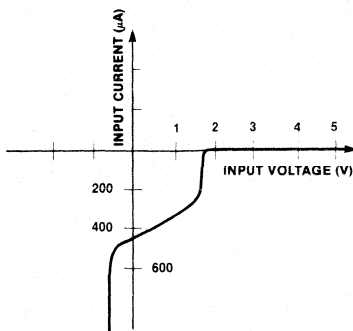
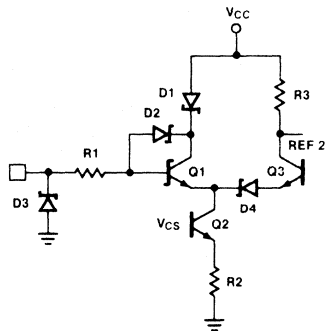
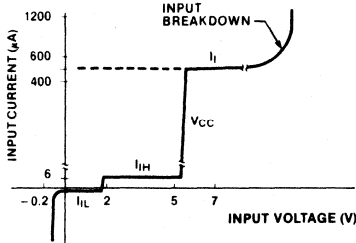

Figure 2. Static Diode Input Function of Voltage vs Current
Figure 7a. NPN Input
Figure 8. NPN Input Characteristics (not to scale)
The static diode input function of voltage versus current is shown in Figure 2. If the pad voltage is negative, most of the relatively high, negative current flows through the clamp Schottky D2. At zero volts the current flows from V_{CC} through R1 and D1 to the pad. Switching from a logic LOW level to a logic HIGH level occurs when the input pad voltage rises high enough to force the current from the D1 path to the Q3-Q2-Q1 path. This happens when the base voltage of transistor Q3 is at three base-emitter drops (3V_{BE}), and the pad is at 2V_{BE}, which is the standard FAST threshold switching voltage. At this voltage the input current is very small, just the leakage currents of diodes D1, D3 and clamp diode D2. The current remains at this small, positive value until breakdown voltage is reached.
The current of Figure 2 is scaled for the case where the pad is required to pull down a single 10K-ohm resistor R1 (20µA maximum in the HIGH state and 0.6mA maximum in the LOW state), which is defined as a standard FAST Unit Load (UL). For some parts, pad current can exceed a UL, especially in the logic LOW state. This will happen if the pad must sink the current from more than one R1 resistor or if the value of R1 is less than 10K ohms, which will be the case if the capacitance at the base of the transistor Q3 is too large for the required switching speed. In this event, the actual number of ULs is listed for each input in the specification sheet for the part. Note that a UL as defined here is less than the normally defined Schottky TTL Unit Load; the correlation is one Schottky Unit Load = 1.67 ULs. This is an important point to remember for fan-in and fan-out calculations in systems that mix FAST with other TTL families.
The NPN input is shown with two variations in Figures 7a and 7b. It has limited use in standard TTL circuits, and is used in selected FAST devices, especially where its superior high-impedance input characteristics are useful. A typical plot of static input current versus input voltage is shown in Figure 8. There are some significant differences between this function and that of the diffusion diode input shown in Figure 2, the most important being the much lower input current in the region from zero volts to threshold, and the controlled increase of input current above V_{CC} .
decreases by exactly this amount, since Q2 is a constant current source. As the voltage continues to rise, D1 becomes reverse biased and prevents high currents flowing from the pad into V_{CC} . All the Q2 current flows into the pad through the R1-D2-Q1-Q2-R2 to ground. As stated before, this current is typically small, in the range of 0.1mA to 1.0mA, and nearly independent of pad voltage, as shown by the I_I plateau in Figure 8. It flows in the correct direction to provide a desirable positive overshoot clamp. This is an advantage over the diode input which does not clamp positive overshoots.
For the incoming inspection testing case where V_{CC} and ground are connected, the response is shown in Figure 8. The current remains on the Q2-limited plateau until the pad voltage is high enough to cause non-destructive collector-emitter reach-through of Q2. At this point, input current increases as the pad voltage rises, and R1 functions to limit this current and prevent damage to Q2.
The $2V_{BE}$ input threshold is set by the forward drops of Q1, D4, Q4 and Q3. The current-mode logic interface is shown in Figure 7a. The output voltage is the drop across R3, and is referenced to V_{CC} (or some on-chip regulated voltage lower than V_{CC}) as is required for current-mode logic. For this case, voltage reference REF2 is normally fixed at $2V_{BE} + 1$ Schottky drop to provide a pad threshold voltage of $2V_{BE}$. In fact, REF2 can be tailored to set the switching threshold voltage to any desirable level; it can be set to something other than an integral number of base emitter drops, or it can be designed to reduce the sometimes undesirable temperature variations of input threshold.